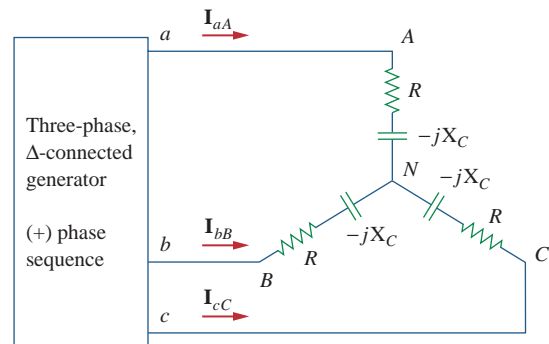

Figure 12.55
12.26 Using Fig. 12.55, design a problem to help other students better understand balanced delta connected sources delivering power to balanced wye connected loads.